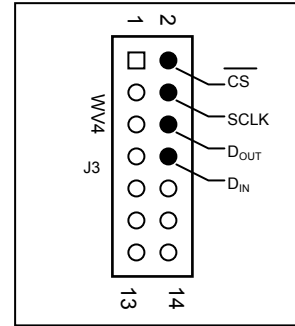

Figure 2: J3 WaveVision4 Serial Interface Header
4. The digital inputs and outputs are available at header J3. Refer to *Figure 2* for connection details. The source used to create signals SCLK, CS, and D_{IN} must meet the digital input characteristics in the ADC128S102 datasheet.
If the Evaluation board is used in Stand-alone mode, the onboard oscillator and signal applied to J6 do not drive the SCLK pin. Rather, an external source such as a pattern generator must supply the digital signals (CSB, SCLK, D_{IN}) to drive the ADC128S102. These signals must be applied at J3, the Serial Interface Header (See Figure 2).